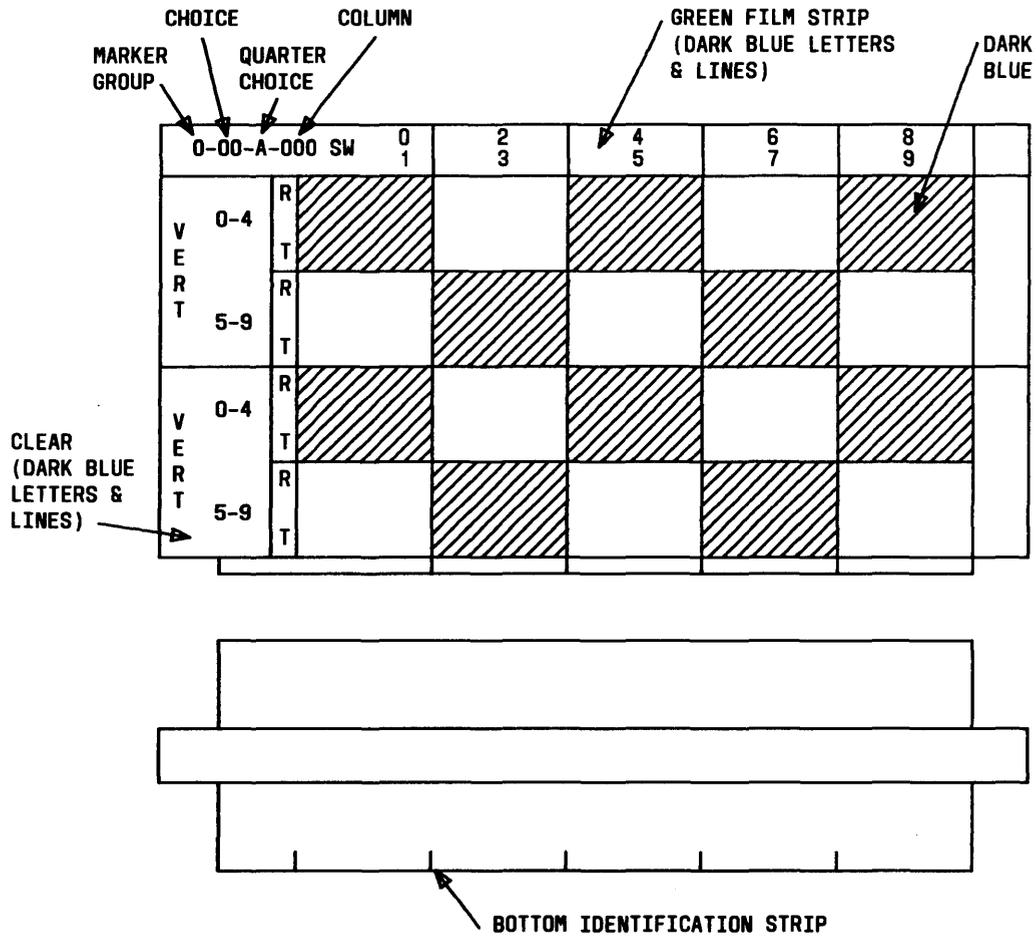

Fig. 9—89A2-100 Connecting Block Labels—No. 1 Crossbar Subscriber Lines
2.14 Connecting blocks in the 89A2- through 89A7-series are used to terminate subscriber lines in various switching systems. They are furnished with factory applied identification labels as shown in Fig. 9 through 14.